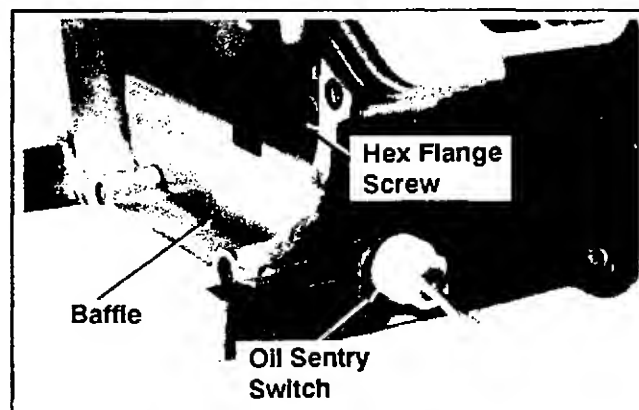

Figure 9-29. Removing Oil Sentry.
1. Remove hex. flange screw and oil sentry float switch baffle on engines so equipped. See Figure 9-29.